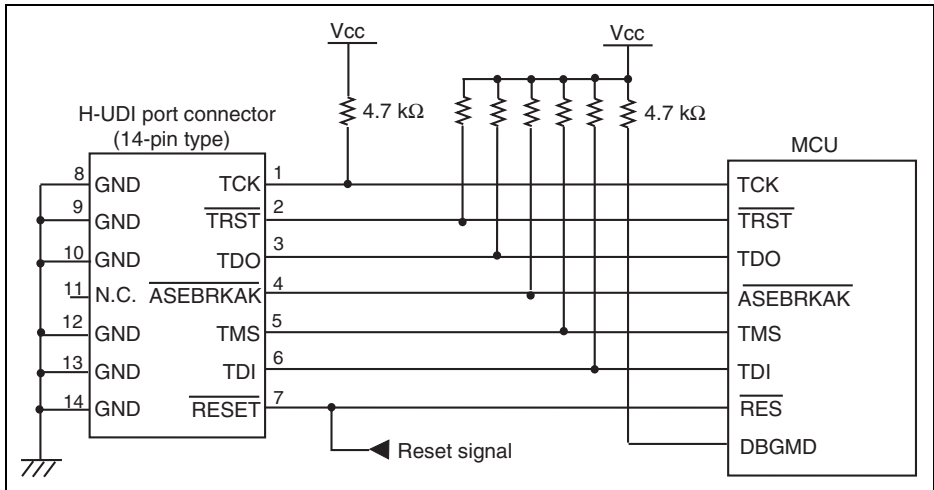

Figure 1.7 Recommended Circuit for Connection between the H-UDI Port Connector and the MCU (14-Pin Type)
Figure 1.7 shows a recommended circuit between the H-UDI port connector (14 pins) and the MCU.
- (1) When the emulator is used: DBGMD = high
- (2) When the emulator is not used: DBGMD = low
5. The resistance values shown in figure 1.7 are recommended.